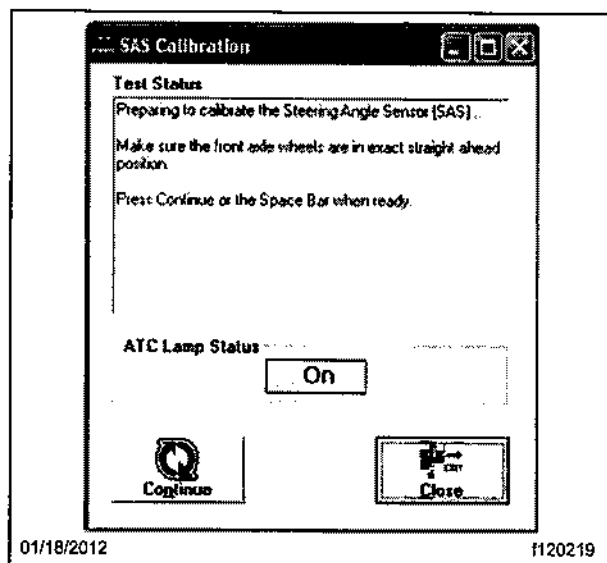

Fig. 11, SAS Calibration
6. Follow the instructions in the message box. See Fig. 11.